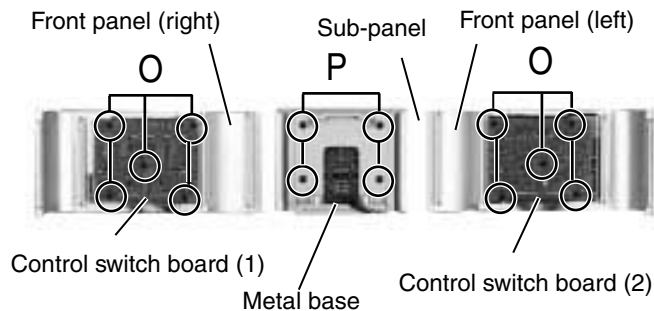

Fig.10
■ Removing the control switch board assembly 1 & 2 and display board assembly (See Fig.10 to 11)